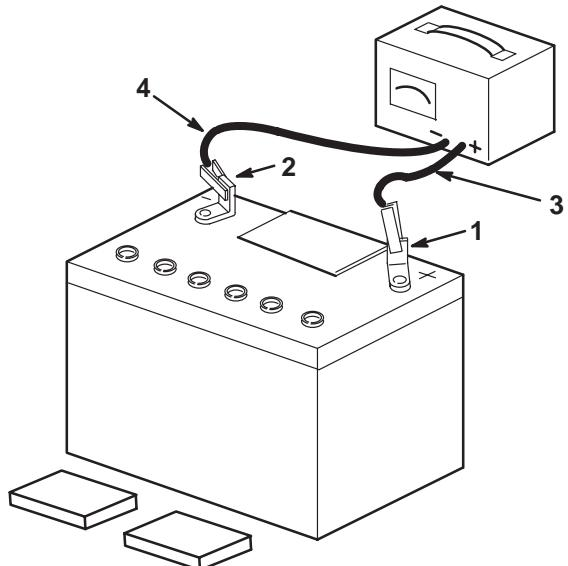

Figure 4
- Leave the covers off and connect a 3 to 4 amp battery charger to the battery posts (Fig. 4). Charge the battery at a rate of 4 amperes or less for 4 hours (12 volts).
- When the battery is fully charged, disconnect the charger from the electrical outlet and from the negative and positive battery posts (Fig. 4).